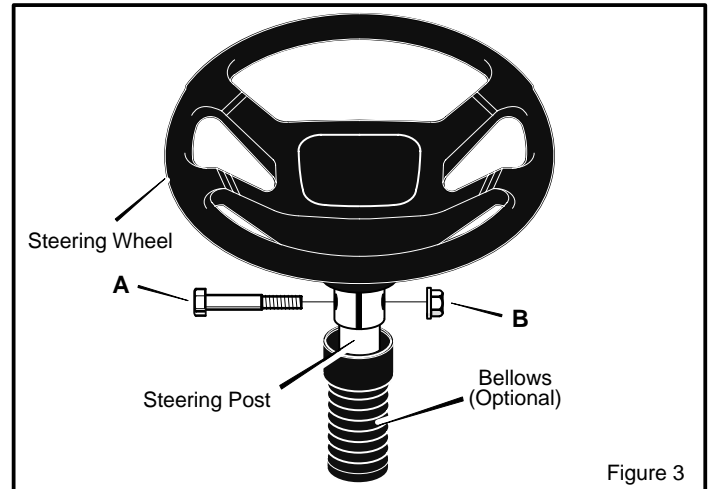

Figure 3
2. Some models have an *optional bellows*. Slide the **bellows** over the **steering post**. Make sure the **collar** of the **bellows** is on top (Figure 3).